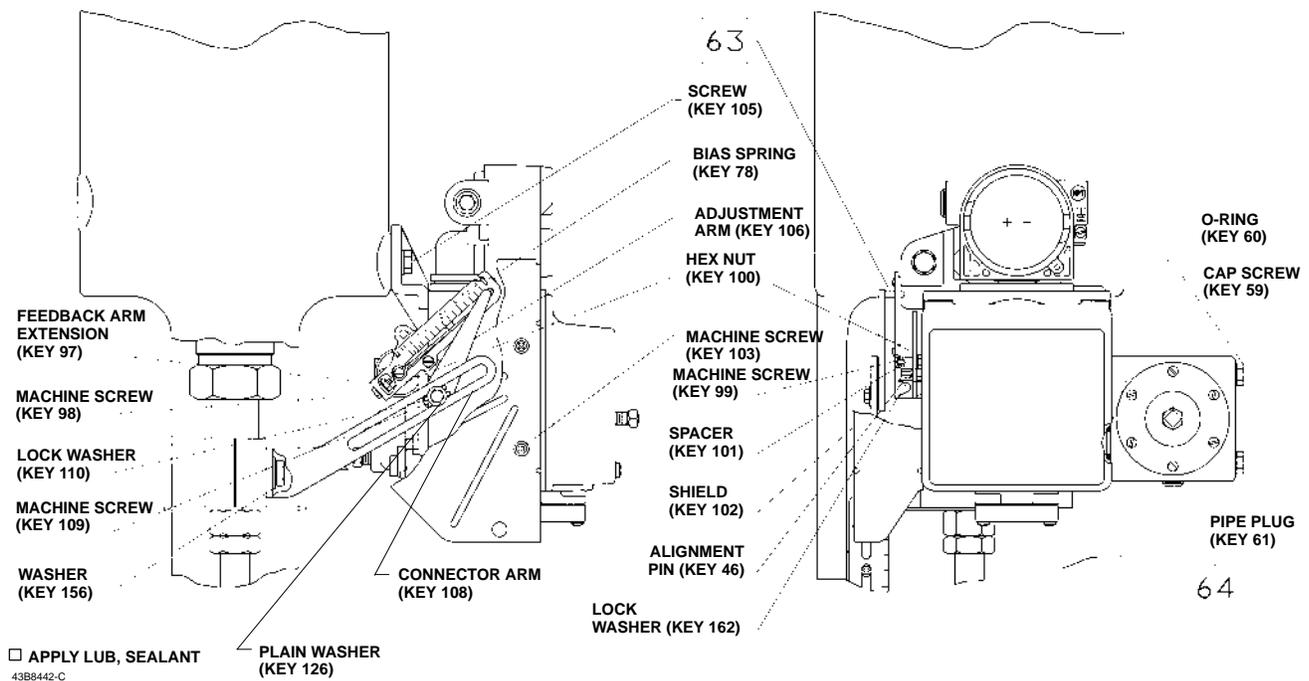

Figure 3. Type DVC5010 Digital Valve Controller with Integrally Mounted Filter Regulator Yoke-Mounted on Type 657/667 Size 70-100 Actuator
Refer to figure 3 for mounting parts identification. Refer to the FIELDVUE DVC5000 Series Digital Valve Controllers Instruction Manual - Form 5335 for DVC5010 digital controller parts identification, and the FIELDVUE DVC6000 Series Digital Valve Controllers Instruction Manual - Form 5647 for DVC6010 digital valve controller part identification. Refer to the appropriate actuator instruction manual for actuator installation, operation, maintenance and parts identification.
3. Refer to figure 3. If valve travel exceeds 2 inches, a feedback arm extension (key 97) is required. Remove the bias spring (key 78) for up to 2-inch travel from the feedback arm. Attach the bias spring (key 78) for up to 4-inch travel to the feedback arm extension. Attach the feedback arm extension to the feedback arm with screw (key 98), screw (key 99), spacer (key 101), lock washers (key 162), and hex nuts (key 100). Remove the pipe plug from the output connection on the back of the housing, apply sealant (key 64), and reinstall it in the output connection on the side of the housing.
4. Loosely install a hex flange screw (key 105) in the right hole of the lower actuator mounting boss.
5. Position the digital valve controller so the hole in the mounting pad of the mounting bracket goes onto the mounting screw (key 105). Slide the digital valve controller to the left to expose the left hole. Install the left screw (key 105). Tighten both screws (key 105).